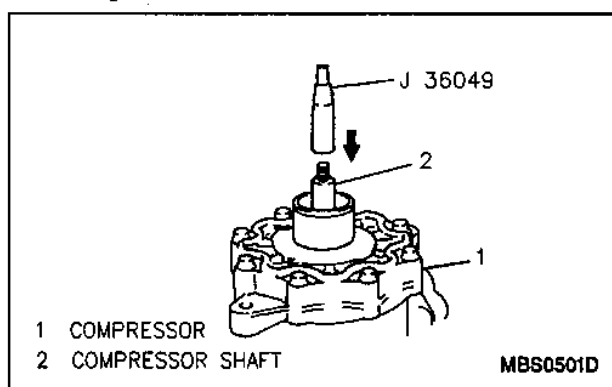

Figure 10—Installing J 36049
1. Slide in J 36049 into compressor shaft (Figure 10).